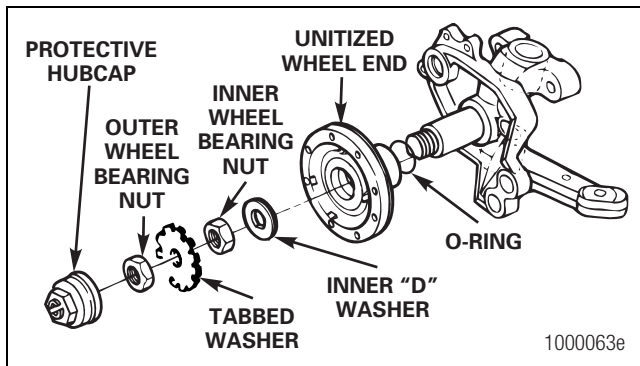

Figure 4.3
- A. For threaded hubcaps, use the correct size socket to turn the hubcap COUNTERCLOCKWISE. Figure 4.3.
8. Remove the unitized wheel end STRAIGHT from the spindle. Figure 4.3.